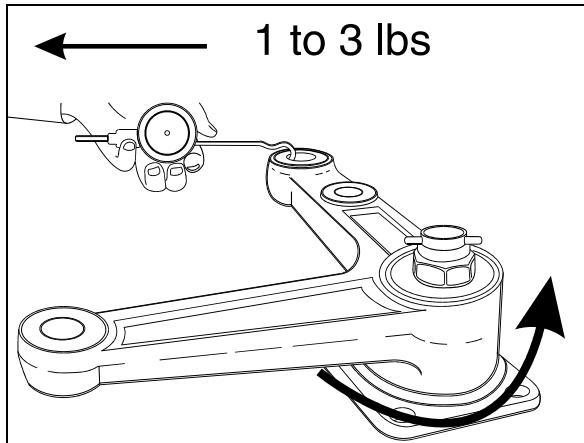

FIGURE 12: BELL CRANK
6. Unscrew nut until bell crank or idler arm starts to turn by the application of 1 to 3 pounds load (Fig. 12).
7. Check for loose bearings by applying an up and down load on bell crank or idler lever (Fig. 12). The lever is not supposed to move in the vertical axis direction.